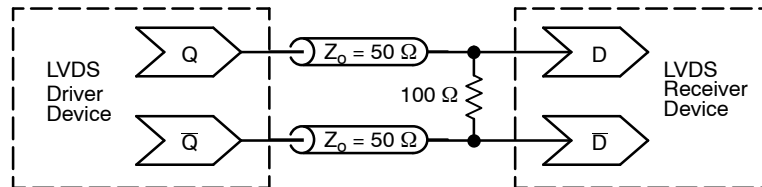

Figure 14. Typical LVDS Termination for Output Driver and Device Evaluation
- LVDS outputs require 100Ω receiver termination resistor between diff. pair. See Figure 14.